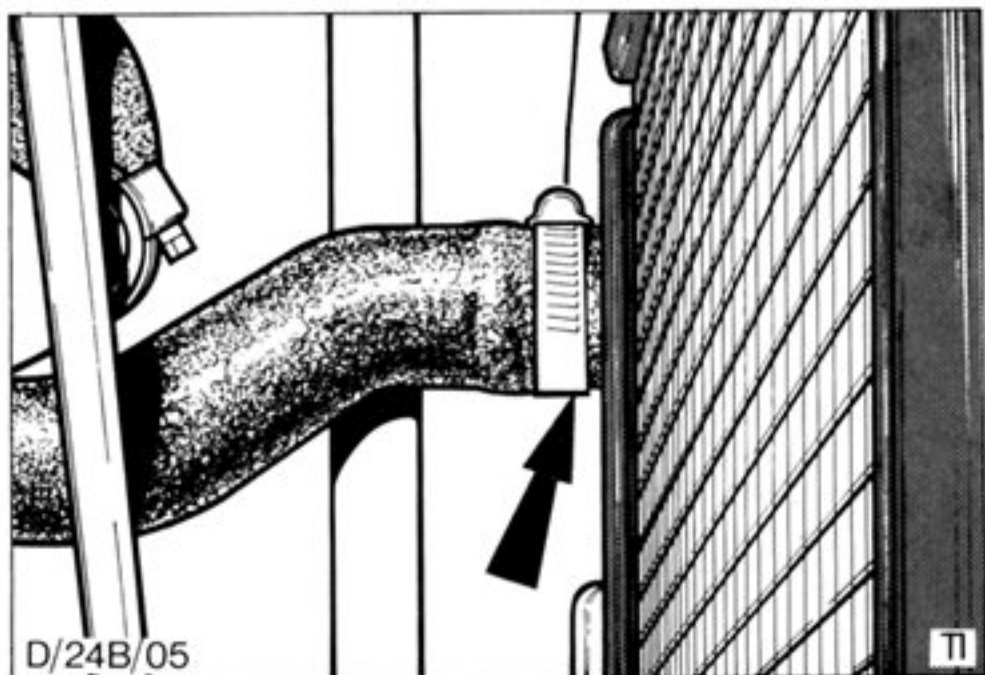

Fig.34. Radiator bottom hose connections (fan shroud removed for clarity).
4. Loosen radiator bottom hose clamp, Fig.34, slide hose from radiator and drain system. Remove radiator filler cap to assist draining.